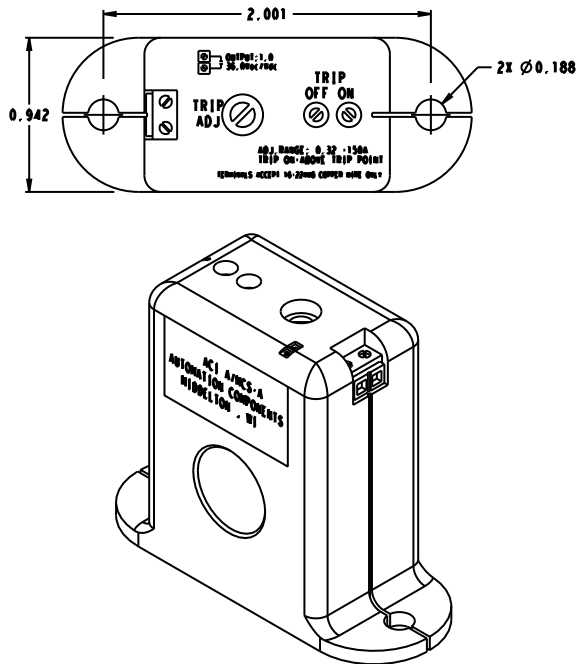

Fig. 20 — Fan Status Switch
2. If the Blue LED is on, slowly adjust the potentiometer (labeled as “TRP ADJ” in Fig. 20) clockwise until the RED LED just turns on and stop immediately. The trip point is now set at the normal operating load current.